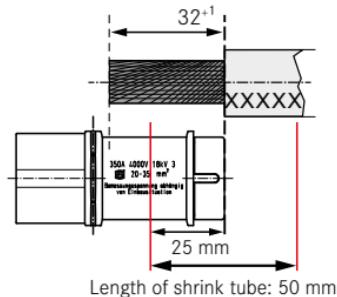

Figure IV-9: Shrink tube assembly over the cable and contact for Han® HC Modular 350
① Strip the cable according to Figure IV-9 and IV-10, so that the stripped *stranded wire* can be inserted fully into the contact.
② Terminate the cable to the torque specified for the wire gauge (see Table IV-2, p. 32):
④ Pull the shrink tube as shown in Figure IV-9 and IV-10 (red lines!) over the contact and shrink.